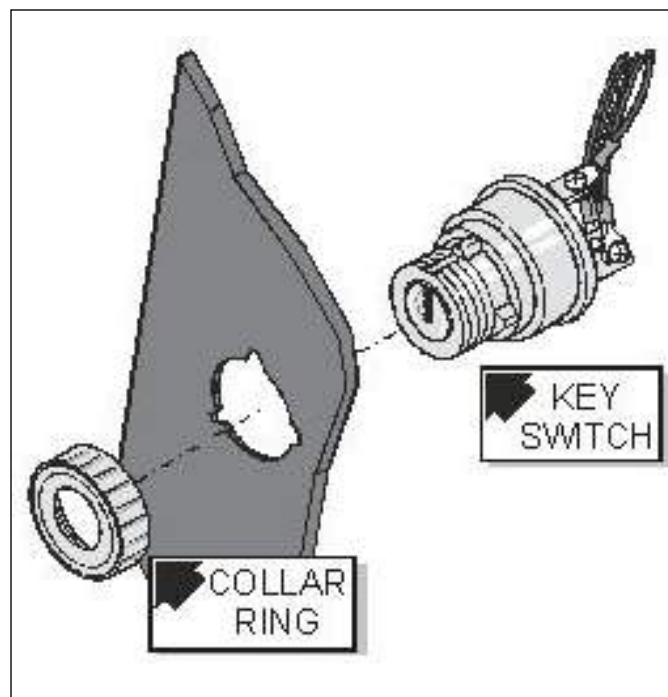

Figure 4-2 Key Switch Assembly
5. Unscrew the knurled switch collar ring to separate the switch from the base plate. **See Figure 4-2.**